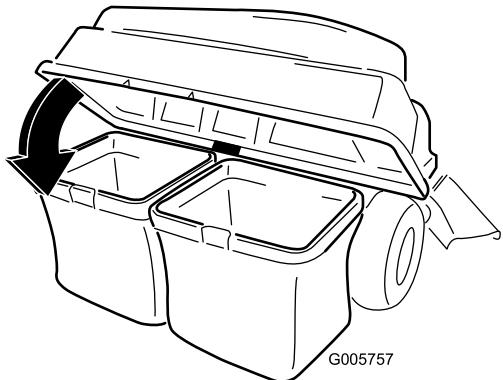

Figure 15
3. Lower the bagger top onto the bag (Figure 15).